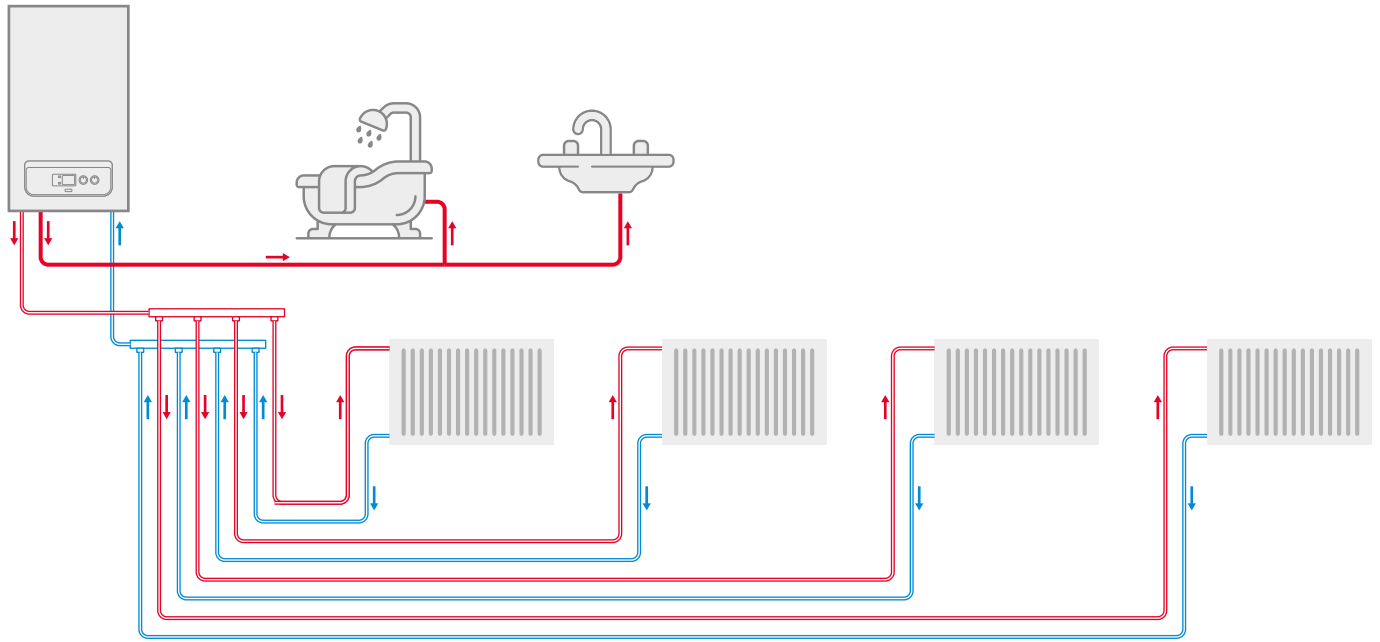

Figure 11 Heating installation scheme with mobile distribution system with boiler.
- Fix the flange under the elbow piece (1) by using the Flange Bolt (5) via Flange Connection Screws (4) to holes on the combi.
- 2 x Ø60 Sealing Gasket within the hermetic flue set (6) are placed into internal pipe slots at both ends of the 90° elbow.
- Place the Ø100 Sealing Gasket (12) on the 90° elbow contacting with the restrictive set.
- Place the External Wall Plate into the flue terminal as seen in Figure 11-12. for grouping the flue output terminal. After placing the flue output terminal through exterior of wall and the previously made hole, fix the Internal Wall Plate (11) into the flue terminal. Place, 90° flue elbow of your combi coupled tightly to the flue output terminal (Figure 12). Then fit the outer and inner wall flanges (Fig.11_11-12) on the terminal pipe (Fig.12). Finally, push the Internal Wall Plate to the wall surface and ensure flue and wall impermeability.